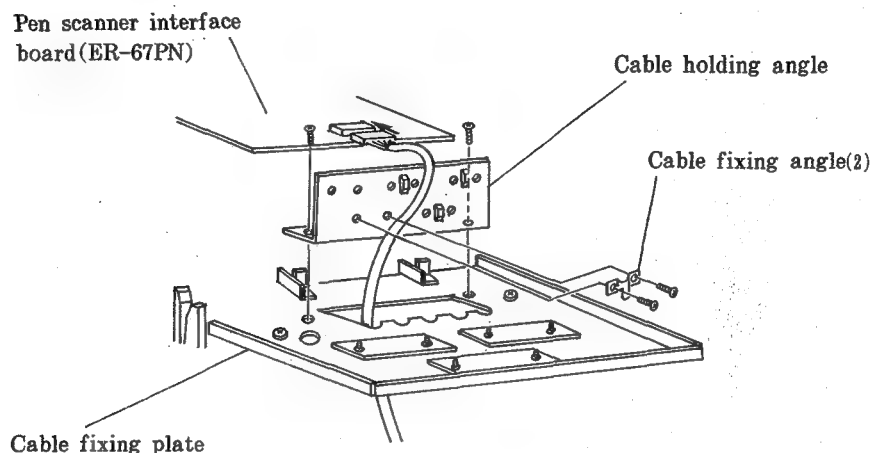

Fig. 53
- (7) As shown in Fig. 53 above, insert the pen scanner cable into the hole in the cable fixing plate from the lower side, and connect the cable to the pen scanner interface board.
- (8) Use the cable fixing angle (2) to fix the pen scanner cable onto the cable holding angle.
- (See Fig. 53 above.)
- (9) Attach the cable holding angle to the cable fixing plate as before.
- (10) Reverse the procedure (2) to attach the rear cover.
- (4) Remove the screws (2 pcs.) which are fixing the cable holding angle, and remove the cable holding angle from the cable fixing plate. (See Fig.53.)